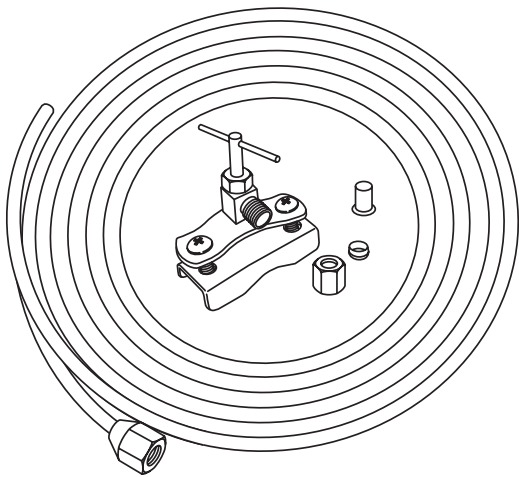

Figure 18
Water Connection For IceMaker Models Only - Figure 18
- Use a 1/4" OD copper line to connect the water supply to the solenoid valve. **This is not supplied with the refrigerator (Figure 18).**